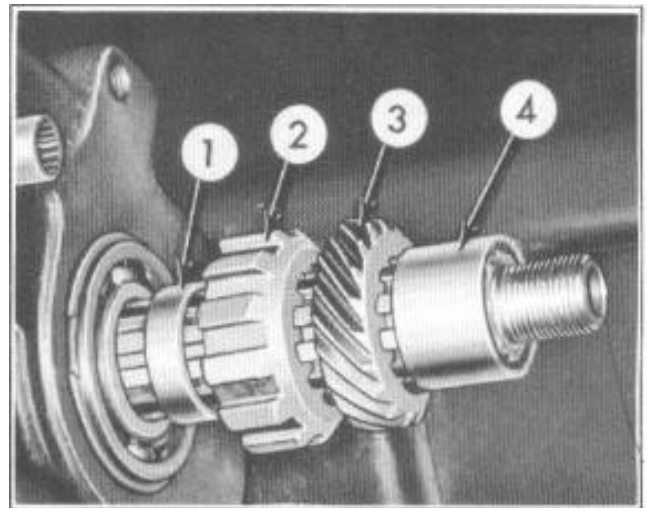

FIGURE 46
2. Remove the companion flange spacer (4), Figure 46.
3. Slide the governor drive gear (3), and parking brake gear (2) off the mainshaft.